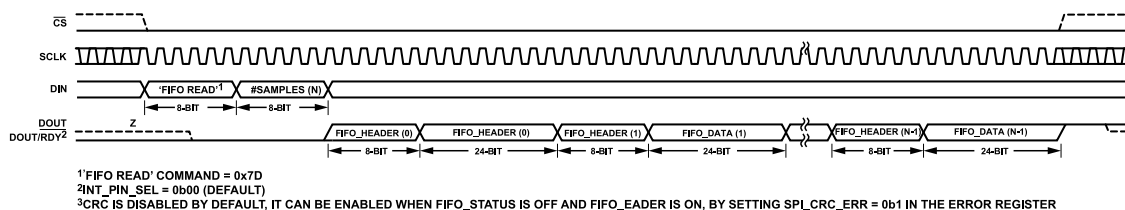
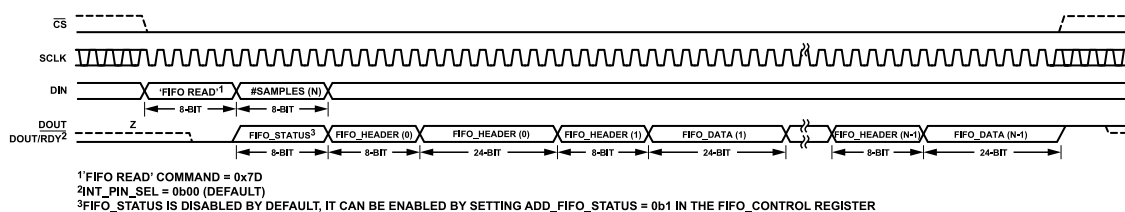

Figure 104. FIFO Readback Default (FIFO_STATUS Append Off and FIFO_HEADER Append On)
Figure 105. FIFO Readback (FIFO_STATUS Append On and FIFO_HEADER Append On)
By default, the FIFO_HEADER is enabled and the FIFO_STATUS append is disabled, so the FIFO readback diagram looks as Figure 104. If the FIFO_STATUS append is enabled, the FIFO readback diagram looks as Figure 105.
The FIFO_STATUS register content (see Table 71) can be enabled to be added and read before the FIFO_DATA and during the # samples (N) byte (see Figure 105), by setting ADD_FIFO_STATUS bit to 1 in the FIFO_CONTROL register (see Table 69). This way, the user can detect an error earlier on and abort the FIFO_DATA readback.